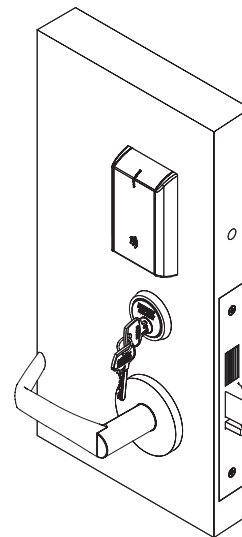

Fig. 27
1. Insert key into cylinder and rotate. (Figure 27)